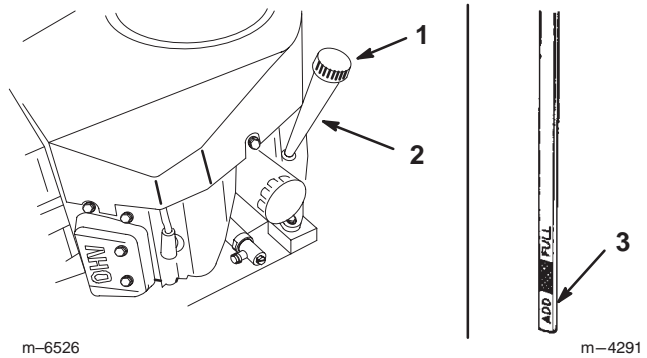

Figure 16
3. Clean around the oil dipstick (Fig. 16) so that dirt cannot fall into the filler hole and damage the engine.
4. Unscrew the oil dipstick and wipe the metal end clean (Fig. 16).
5. Slide the oil dipstick fully into the filler tube, but do not thread it onto the tube (Fig. 16). Pull the dipstick out and look at the metal end. If the oil level is low, slowly pour only enough oil into the filler tube to raise the level to the **Full** mark on the dipstick.
10. Clean around the oil dipstick and unscrew the cap (Fig. 16).
11. Slowly pour approximately 80% of the specified oil into the filler cap (Fig. 16). Refer to Servicing the Engine Oil, page 22.